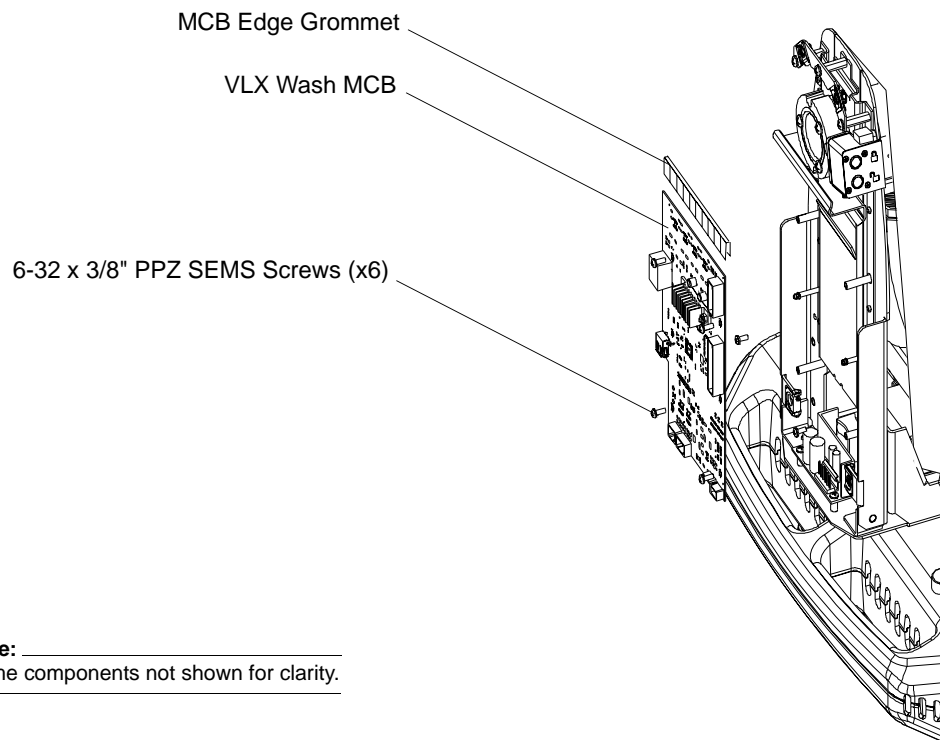

Figure 2-10: VLX Wash Main Control Board (MCB)
Step 4. As shown in Figure 2-10, remove six 6-32 x 3/8" PPZ SEMS screws.